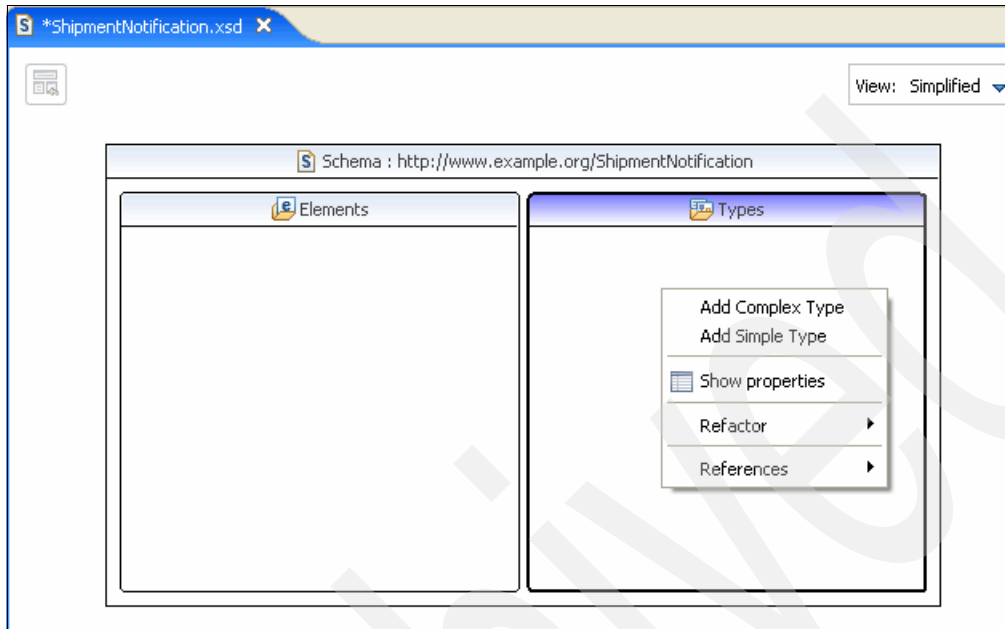

Figure 9-17 ShipmentNotification XML schema
4. In the newly created XML schema (Figure 9-17), right-click the **Types** pane and select **Add Complex Type**.